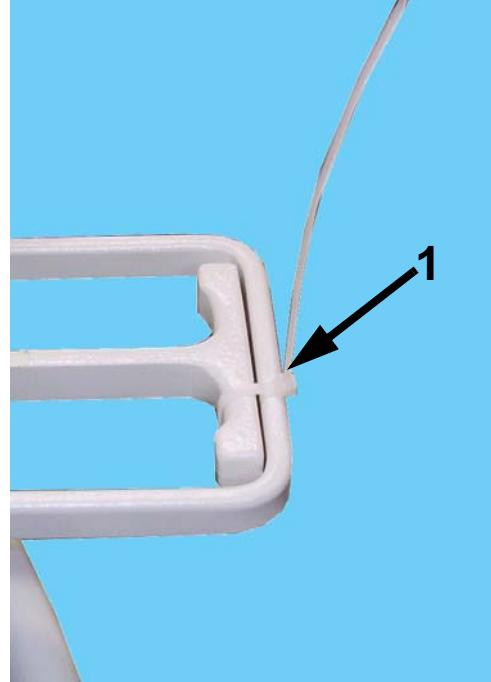

Figure 6-26. Brake Handle Tied Open
- 5 Pull brake handle open and secure it open with a cable tie (1 in Figure 6-26).